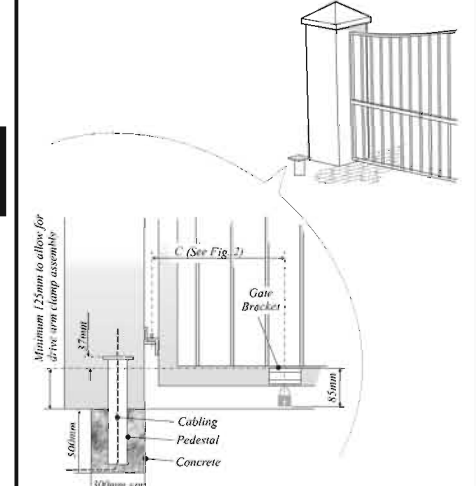

Figure 4 Pedestal/Gate Bracket vertical position
- Check that there is enough ground clearance to enable assembly of the drivearm clamps. (See Figure 4)
- Determine pedestal or wall mount bracket height relative to gate bracket as in figure 4 and 5. (IM page 21)